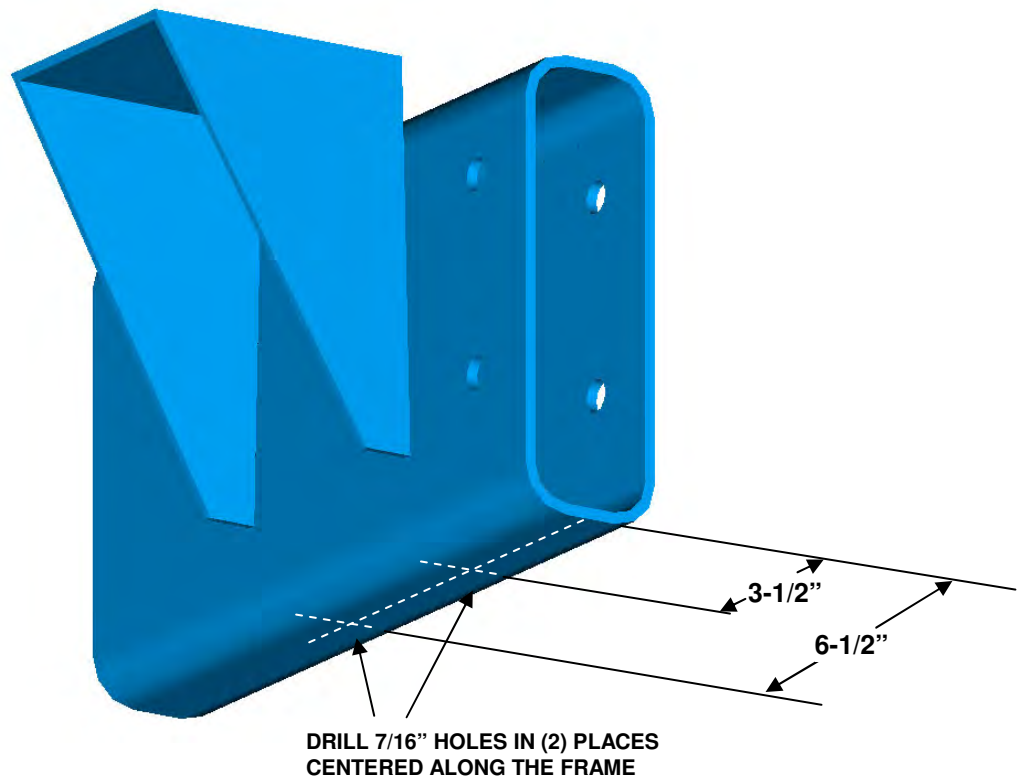

Figure 8 Right frame with hole locations marked
- 13.** Measure back from the end of the frame tube. Mark the bottom of the frame along the center at 3-1/2” and 6-1/2”. Drill 7/16” holes where marked. Repeat this step for the opposite side. See **Figure 8**